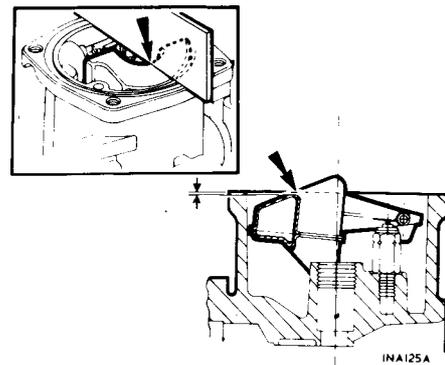

Fig. B30. Setting the Float level
c. After fitting the float and valve, invert the carburetter so that the needle valve is held in the shut position by the weight of the float only. Check that the point indicated on the float (see illustration Fig B30) is 0.04/0.02 in (1.0/0.5 mm) below the level of the float chamber face. Adjust the float position by carefully bending the brass pad. Check that the float pivots correctly about the spindle.